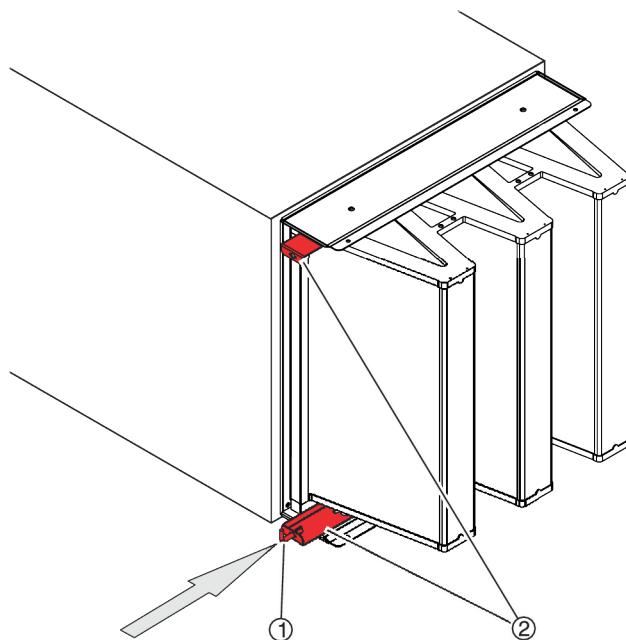

Fig. 27: Retracting the clamping rails
7. ▶ Use the special key (Fig. 27/1) to slide the clamping rails (Fig. 27/2) in as far as they will go.